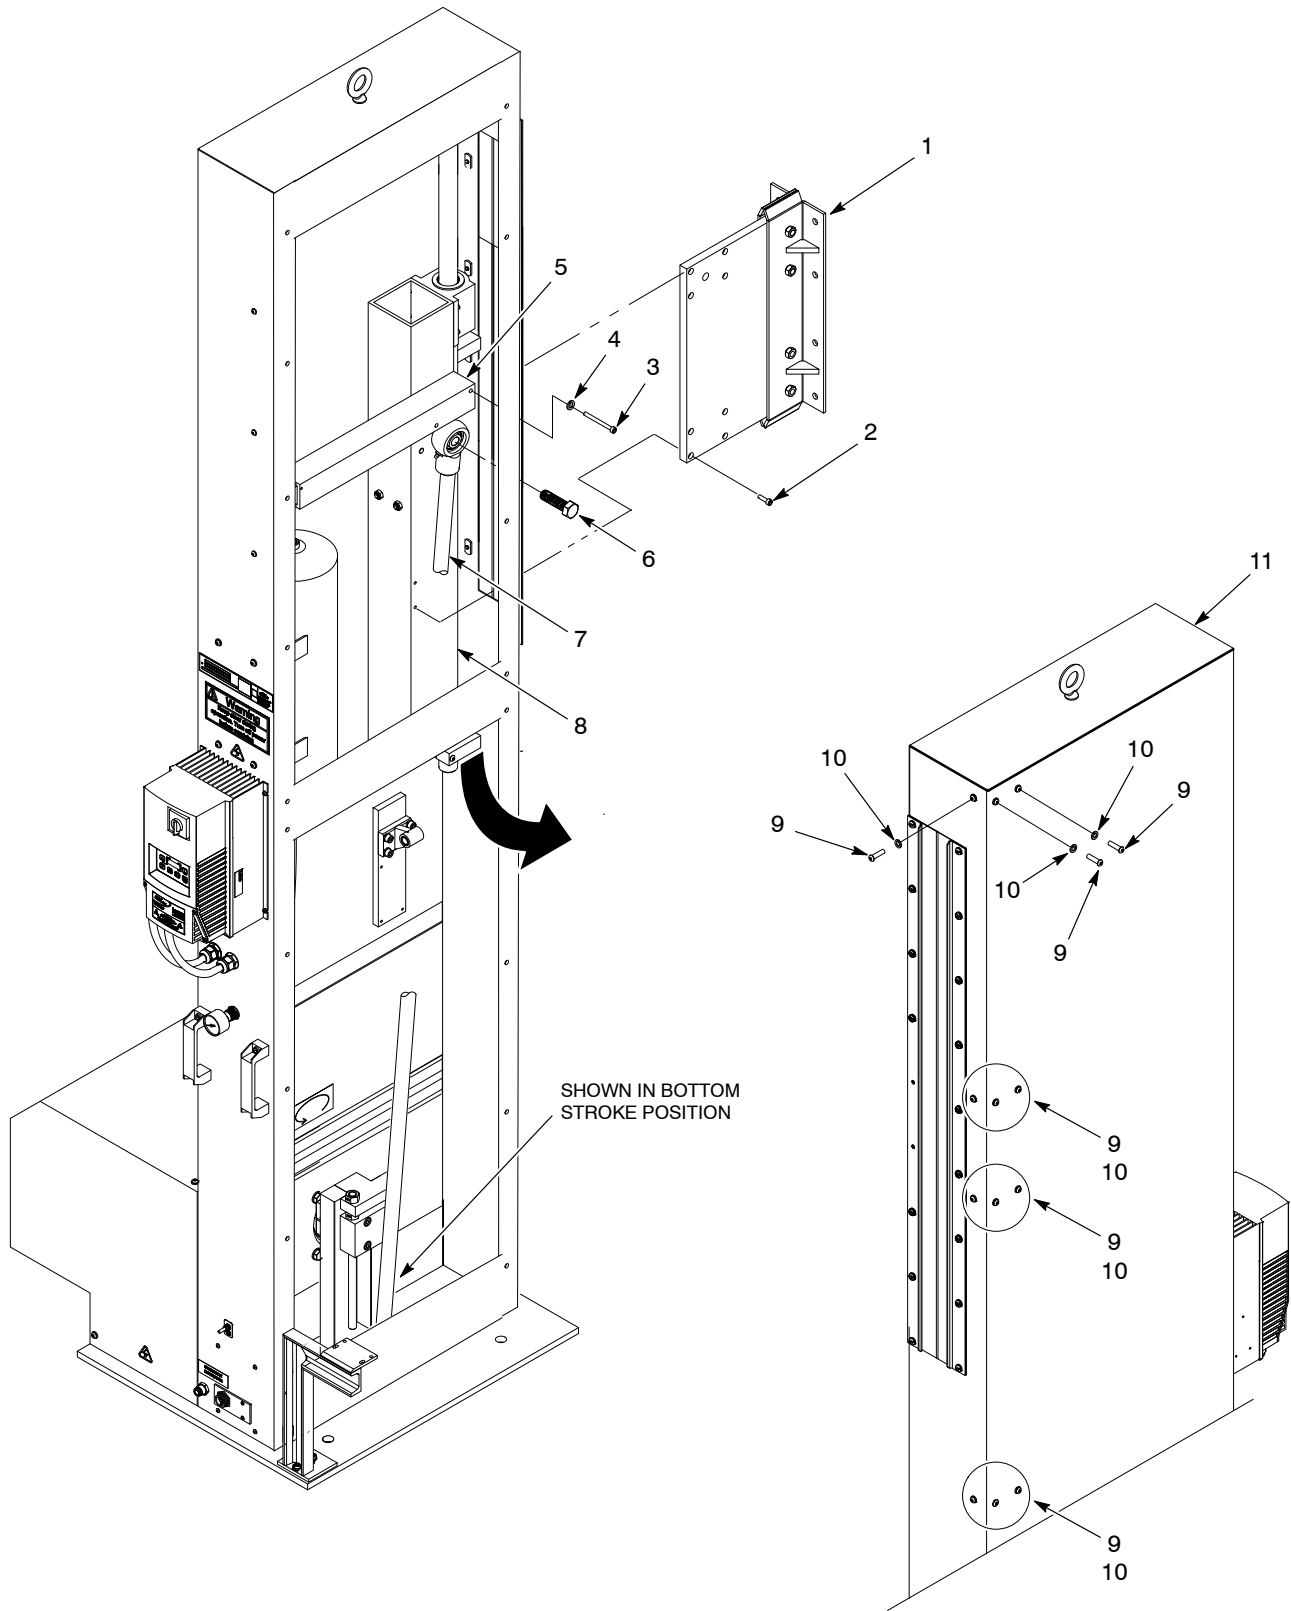

Figure 16 Removing the Bearing Assembly
1. See Figure 16. Remove the screws (3) and lock washers (4) securing the stabilizer bar (5) to the bearing mount tube (8). Remove the stabilizer bar.
2. Remove the screw (6) securing the connecting rod (7) to the bearing mount tube (8). Swing the connecting rod to the left and away from the bearing mount tube.
3. Remove the screws (2) securing the gun plate assembly (1) to the bearing mount tube (8). Remove the gun plate assembly.
4. Have an assistant support the bearing assembly. Remove the screws (9) and lock washers (10) securing the bearing assembly to the oscillator (11). Remove the bearing assembly from the oscillator (11) through the bottom opening.